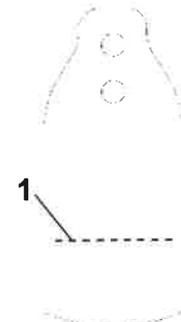

Figure 3
- With use of the UB1 in a pipe with diameter DN 25, the paddle (Fig. 3) must be shortened at the identified dividing line (Pos. 1).